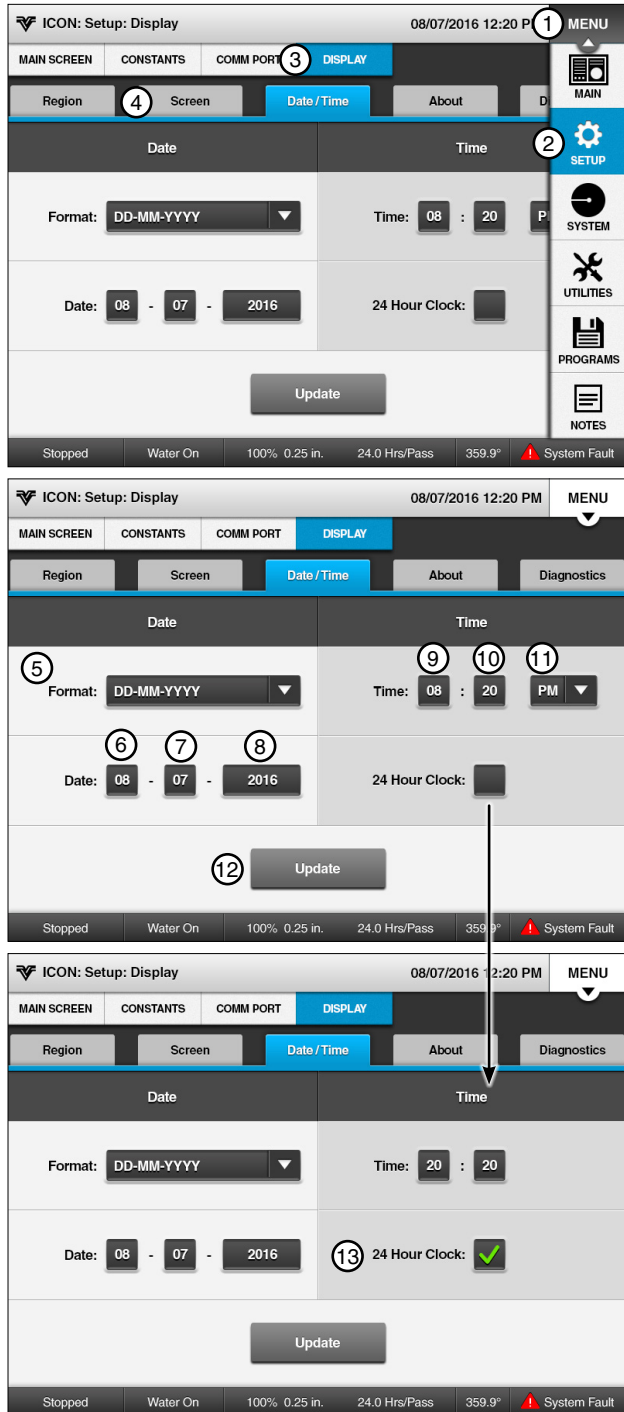

Figure 32-1
3. On the Date & Time screen you can set the Current Date and Time. See Figure 32-1.